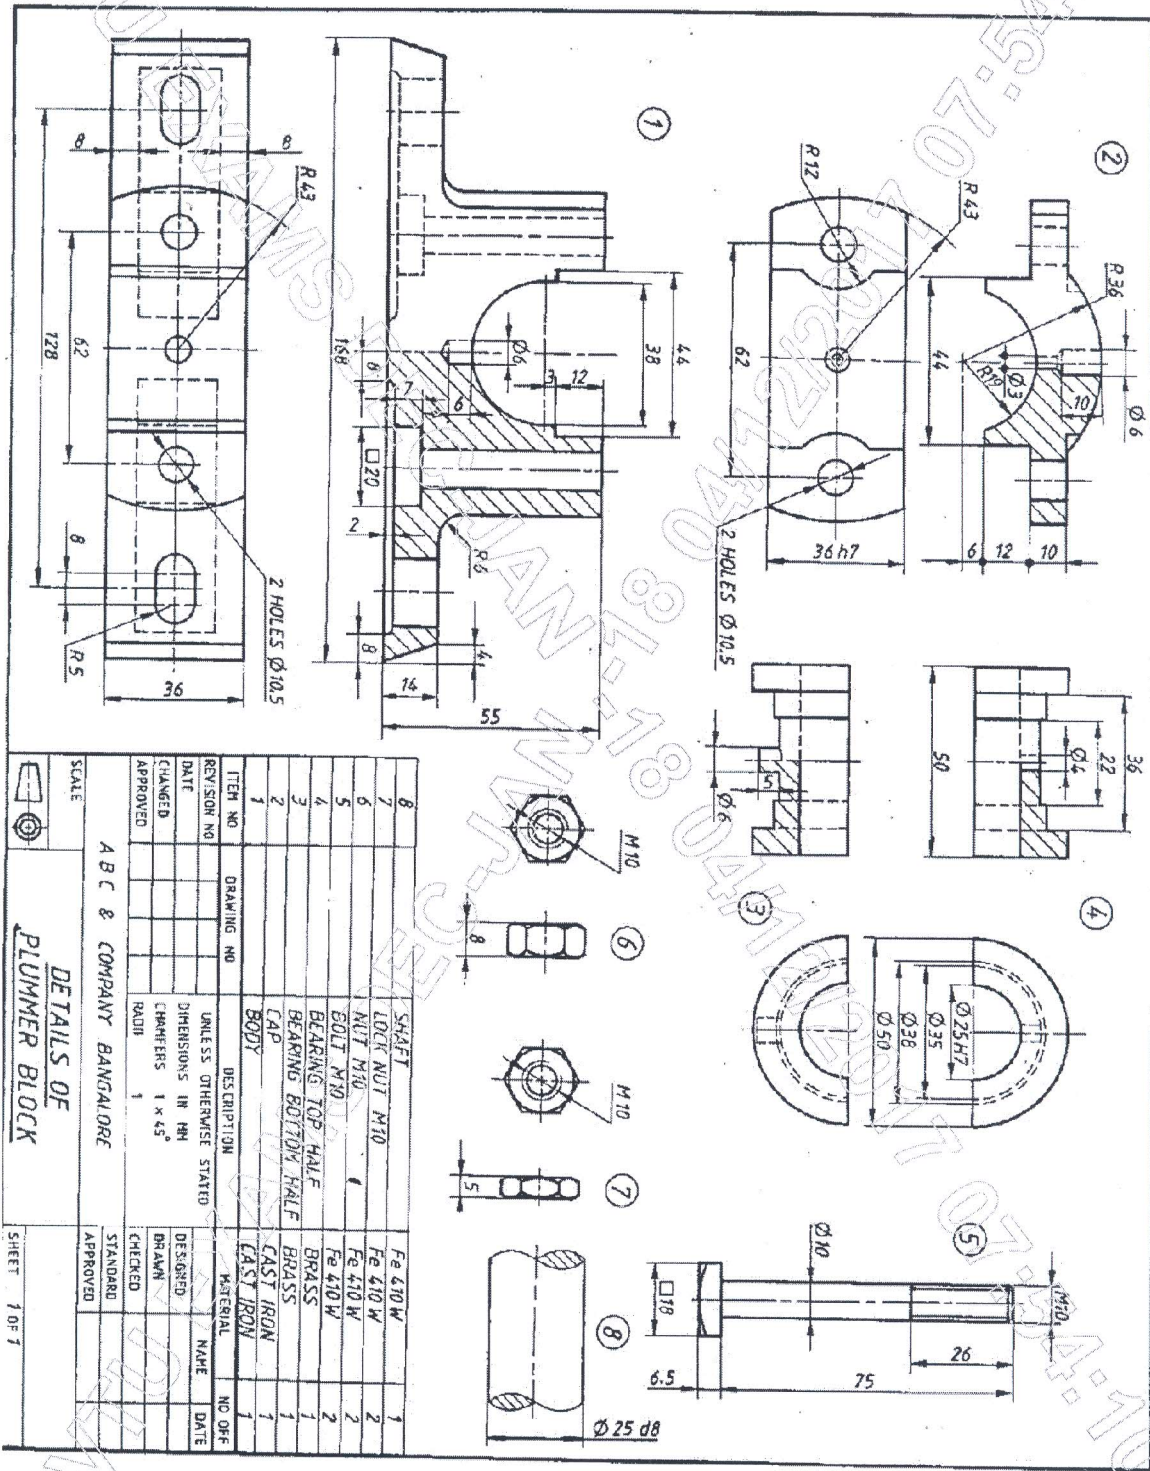

Figure 1. "Plummer Block"
- Q.No.5** Details of "Plummer Block" are shown in following Figure 1. Assemble the parts and draw the following views.